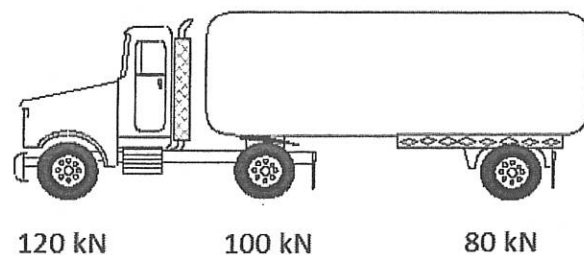

Figure A2(c) / Rajah A2 (c)
- (c) The total load of a truck is 300 kN and it is distributed through 3 axles as shown on the figure A2(c). Based on the figure. Calculate the equivalent load factor if all loads are borne by single axle.
Berat keseluruhan truk adalah 300kN dan diagihkan melalui 3 gandar seperti Figure A2(c). Berdasarkan gambarajah A2(c) , kirakan faktor beban setaraan. Kirakan faktor beban setaraan sekiranya semua beban diletakkan pada satu gandar sahaja.